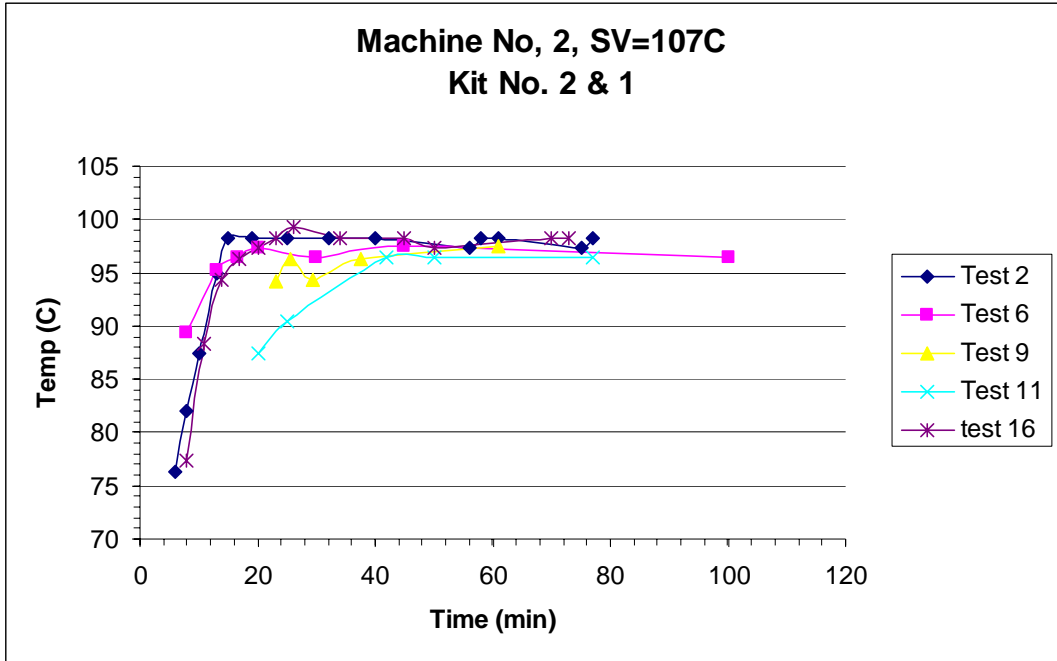
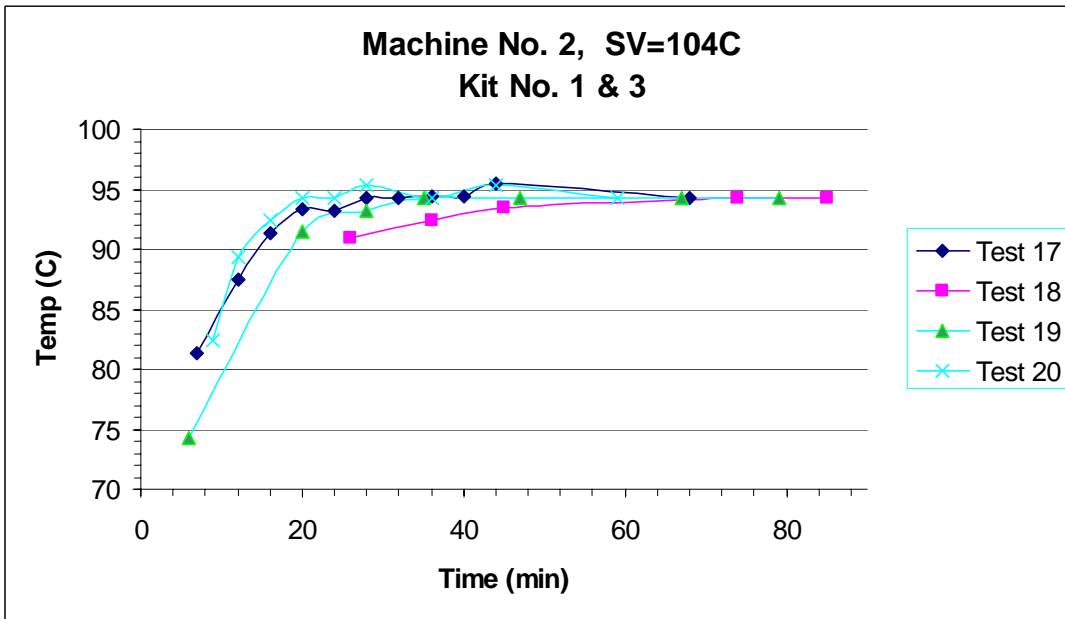

Figure 4, Test 11 and 16 was controlled by Kit No.1. The rest were controlled by Kit No. 2.
Figure 5. Test 20 was controlled by Kit No. 3. The rest were controlled by Kit No. 1. For test 19, the first point is a 150 ml (5 oz) pump (60 seconds).
- 6) Test 19 in Figure 5 took the least pumping effort to stabilize the Tb in a relative short time. In this test, 150 ml (5 fl oz) of wash was pumped at 6 minutes after power up. Then, another 60 ml (2 fl oz) flush at 20 minutes. The Tb stabilized at 28 minutes.
- 8) Test 2, 6 and 16 in Fig 4 rose much faster than the rest of test. We believe the reason might due to very high SV of the controller and slightly higher room temperature during the test. The Tb at the beginning of the test is near the boiling temperature of water. When we reduced the SV to 104°C (figure 5) the rising phase slowed down.
Figure 9. Waveform difference between a dry Thermofilter and a wet Themofilter that contains the water from previous shot. These are the two last data point of “Test 18” in the Fig 5. We would get different values for Fig 5 if we used average temperature instead of the peak temperature.